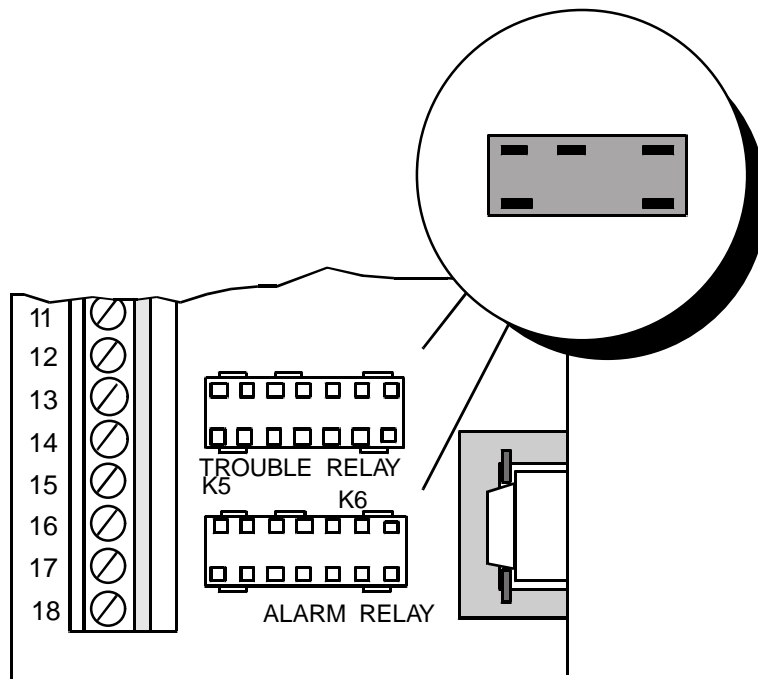

Figure 5: Relay Sockets
- 1) Slide back the D2071A cover to expose the socket as shown in Figure 5.
- 2) The D136 relay has two pins on one side and three pins on the other side. Place the relay into socket with the pins oriented as shown in Figure 5. You can install the relay flush left or right.